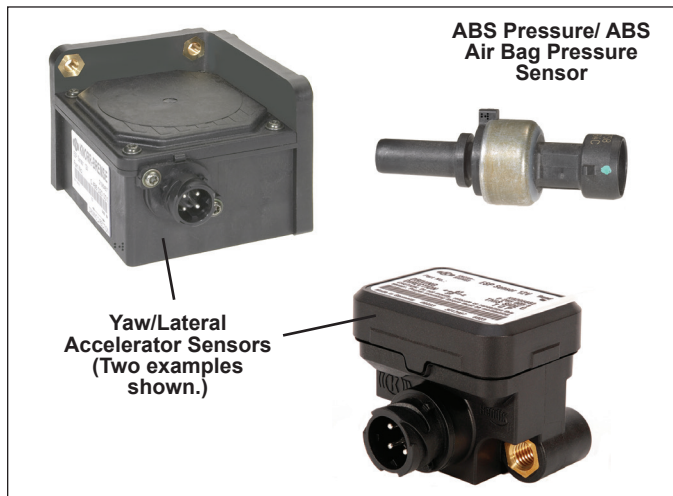

FIGURE 5 - YAW AND ABS PRESSURE/ABS AIR BAG PRESSURE SENSORS
- Bendix® YAS-60™ or YAS-70X™ Yaw Rate/Lateral Acceleration Sensors (typically mounted to a cross-member near the back of the vehicle cab). See *Figure 5*.
The ABS Pressure sensors provide the Controller with an indication of driver-applied brake pressure. One is installed in the primary air brake circuit, and another is installed in the secondary air brake circuit. See Figure 5.
The ABS Air Bag Pressure Sensor provides the Controller with an indication of the vehicle load. It is typically installed in one of the suspension air bags. See Figure 5.
Bendix® brand yaw rate/lateral acceleration sensors are used to provide the Controller an indication of vehicle lateral acceleration and rotation around the vertical axis. This information is provided to the Controller, utilizing a dedicated serial communications link that is shared with the Bendix® SAS-60™ sensor. The Controller supplies the power and ground inputs to the yaw rate sensor. See Figure 5.